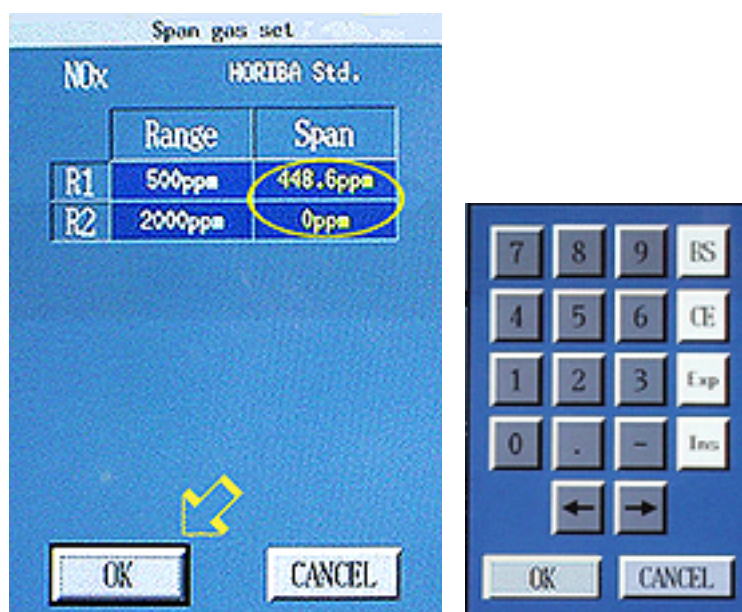

Figure 38
- 147 When the “Span Gas Set” subpanel appears, click in the yellow user changeable field. See the circle in Figure 38. Use the on-screen keypad to enter “CE.” Then use the keypad to enter the bottle concentration data noted in Step 145. See Figure 38. Click on “OK.” See the arrow in Figure 38.